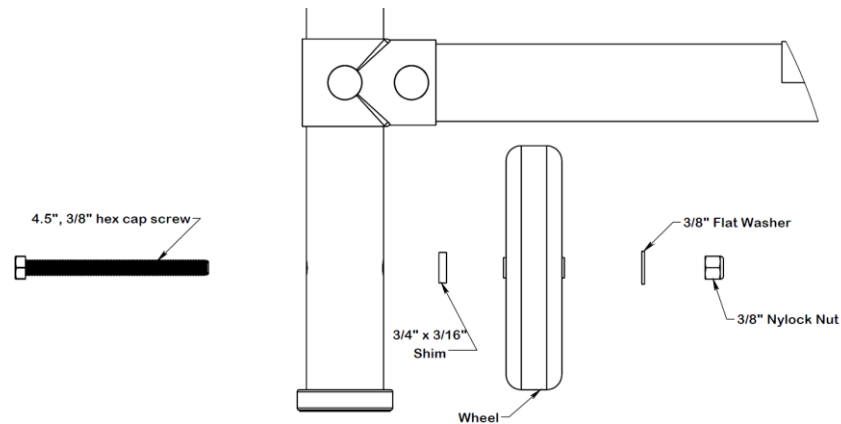

Figure 2
5. Begin assembling the two rear wheels using the hardware in the orientation shown in figure 2 below. Ensure that each wheel sits on the inside of the Torrey's frame.